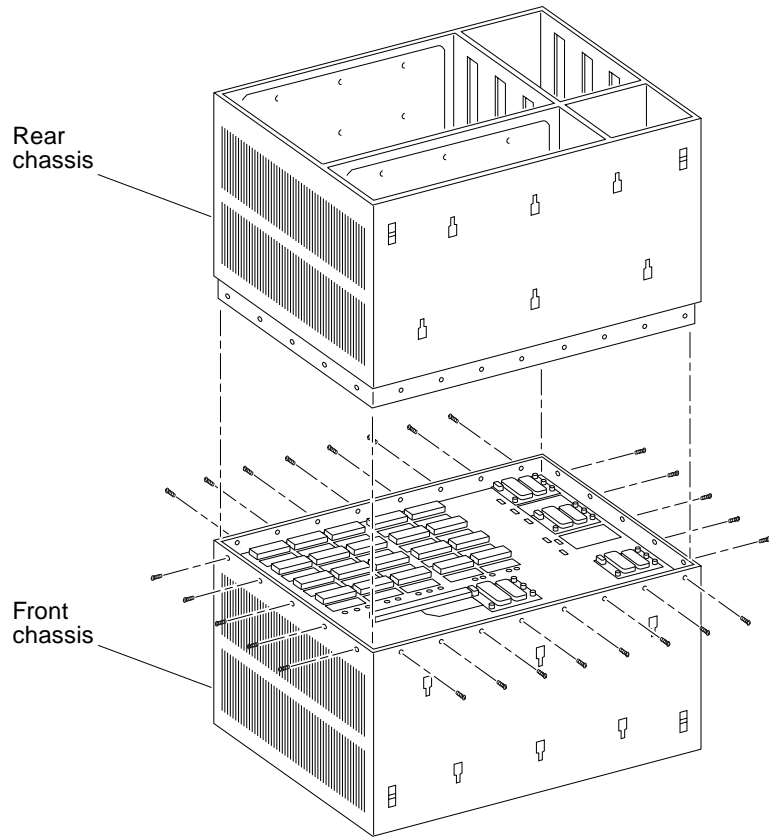

FIGURE E-17 System Chassis—Front and Rear
- 2. Lift and remove the rear chassis section and set it aside (FIGURE E-17).**
3. **Place the rear chassis on the front chassis, as shown in FIGURE E-17, and replace the screws around the center of the system chassis.**